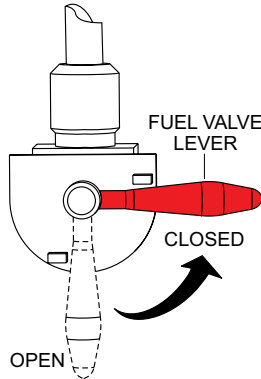

Figure 1. Fuel Valve Lever (Closed)
1. Place the fuel valve lever (Figure 1) in the **CLOSED** position.